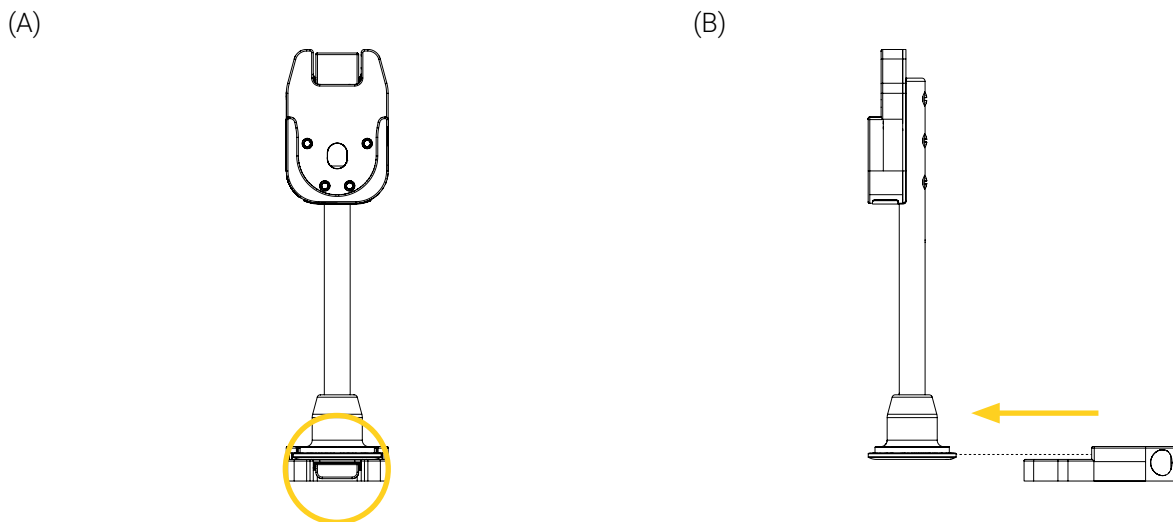
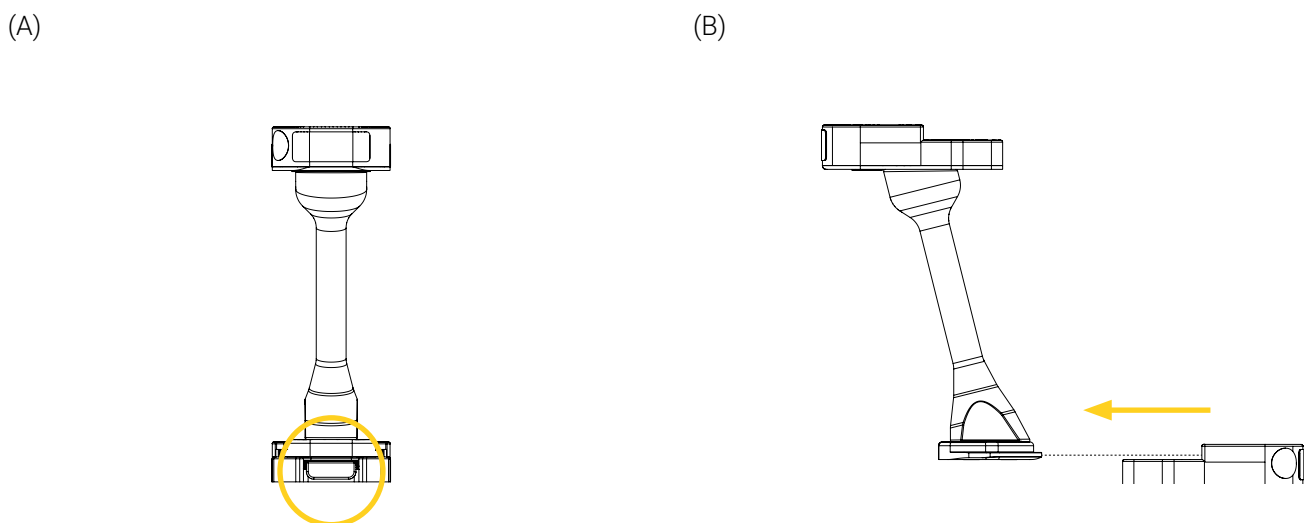

Figure 13: Removing the Safety MD-Transporter from the Micro Base (vertical, standard/short)
Figure 14: Removing the Safety MD-Transporter from the Micro Base (horizontal, angular)
1. Press and hold the quick release button of the Micro Base, then slide the micro disc (Figure 13) or anti-rotation micro disc (Figure 14) of the Safety MD-Transporter out of the base horizontally.